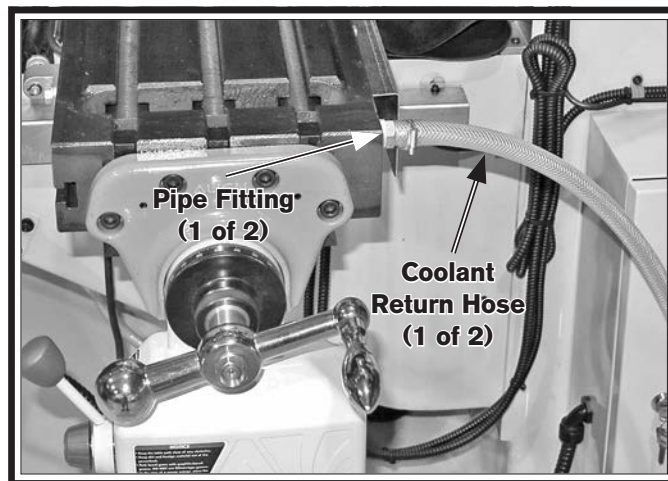

Figure 22. Coolant return hose connections.
8. Apply thread-sealing tape or pipe sealant on threads of (2) pipe fittings, and install them in coolant drain holes on back of table (see **Figure 22**).
9. Loosen hose clamps on coolant return hoses, push hoses onto pipe fittings (see **Figure 22**), and tighten clamps.